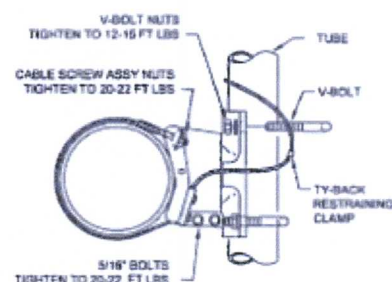

Figure 4
5. Position tube into Male Half of Clamp Kit (Figure 4). Insert V-Bolts as shown and attach with lockwashers and nuts.
6. With signal properly positioned to the desired height and direction, tighten nuts on two (2) V-bolts to 12-15 ft. lbs. of torque. **DO NOT OVERTIGHTEN.**
7. Plumb or level signal and tighten two (2) 5/16" hex bolts on Female Half of Clamp Kit to 20-22 ft.lbs. of torque. **DO NOT OVERTIGHTEN.**
8. Use 3/8" Open End Wrench to hold Cable Screw and tighten both Cable Screw Assembly Nuts to 20-22 ft.lbs. of torque, using a 11/16" Box End Wrench or Ratchet (Figure 4). Note: Tightening the Cable Screw Assembly Nuts firmly with a 7" Wrench will produce approximately 20 ft. lbs. of torque. **DO NOT OVERTIGHTEN.**